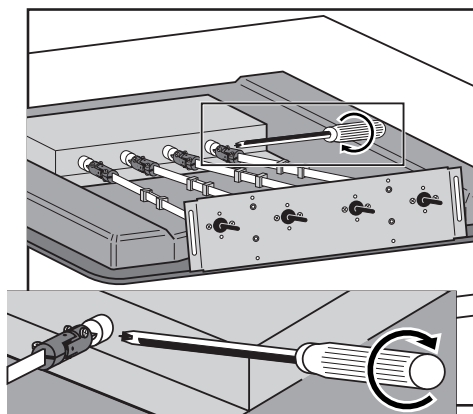

fig. 6
- Position the cardan joints (see fig. 6) in sequence over the shafts of the taps of the hob. Slide the joint approximately 10 mm over the shaft and screw tight.
- Position the cardan joints over the shafts of the taps of the hob. Slide the joint approximately 10 mm over the shaft and screw tight (see fig.6).